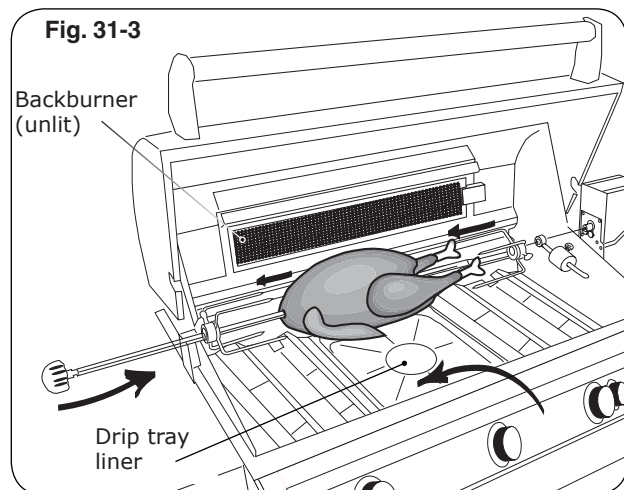

Fig. 31-3
4. Slide the left meat holder onto the rod (and tighten), the meat onto the rod and into the holder, followed by the right meat holder onto the rod and into the meat as shown in Fig. 31-3. Tighten the right meat holder. Be sure the meat is centered and balanced as well as possible.
9. To keep drippings off the burners and simplify cleanup, place Fire Magic® drip tray liners under the meat, if desired (Fig. 31-3).